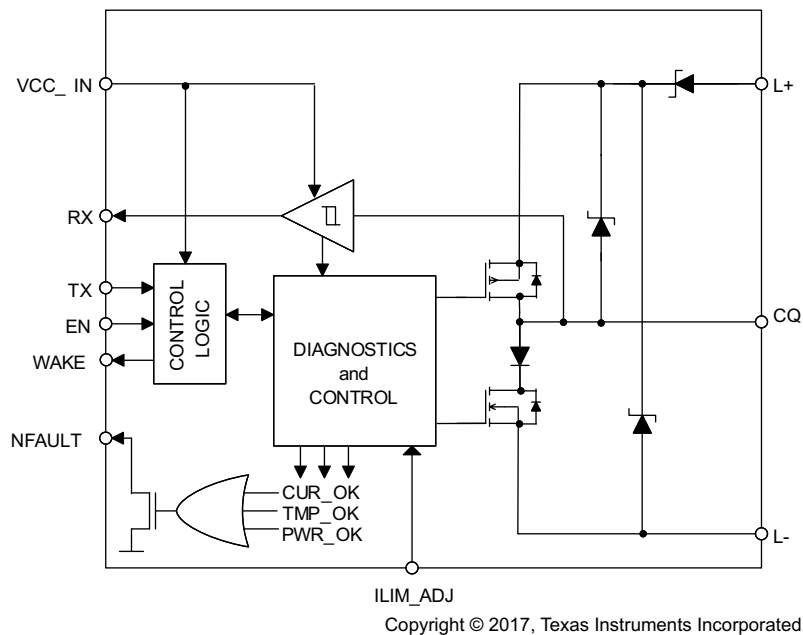

Figure 11. Block Diagram TIOL111
Figure 11 shows that the TIOL111 or TIOL111-x driver output (CQ) can be used in either push-pull, high-side, or low-side configuration using the enable (EN) and transmit data (TX) input pins. The internal receiver converts the 24-V signal on the CQ line to standard logic levels on the receive data (RX) pin. A simple parallel interface is used to receive/transmit data and status information between the slave and the local controller.